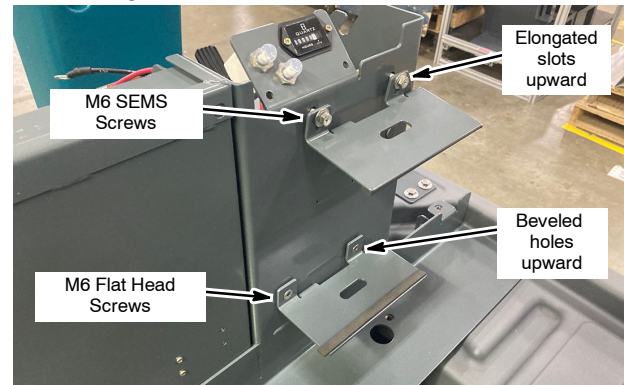

Fig. 3
5. Attach the two charger brackets to machine using supplied hardware (Figure 3). Do not tighten down the top bracket at this time. *See Figure 13 if machine is not equipped with mounting holes.*